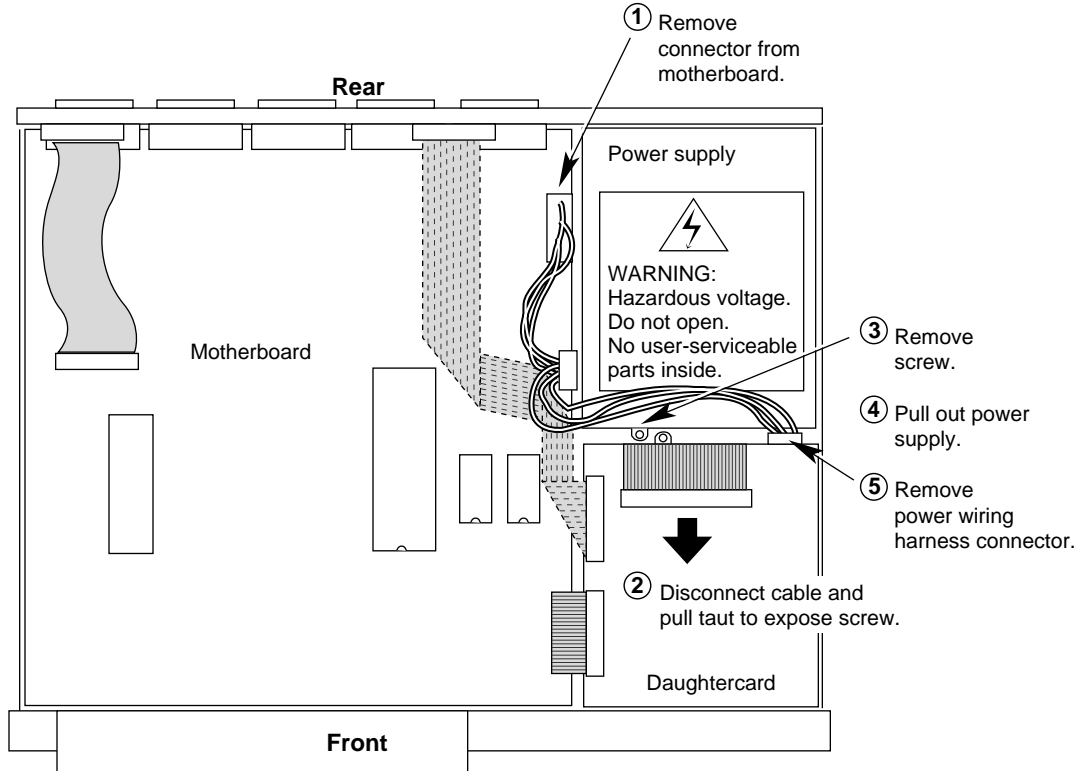

Figure 5-7 Removing the Power Supply
- 3 Perform the steps illustrated in Figure 5-7.
- a Disconnect the cable bundle that connects the power supply to the motherboard (step 1 in Figure 5-7).
- b For Model CS/2600 only, disconnect the cable attached to the rear of the daughtercard mounted on top of the disk drive bracket. Pull it toward you to expose the mounting screw that fastens the power supply module to the bottom of the chassis (step 2 in Figure 5-7).
- c Remove the mounting screw (step 3 in Figure 5-7).
- d Slide the power supply module toward the front of the server and lift it out (step 4 in Figure 5-7).
- e For Model CS/2600 only, remove the power wiring harness from the connector on the rear of the diskette drive (step 5 in Figure 5-7).